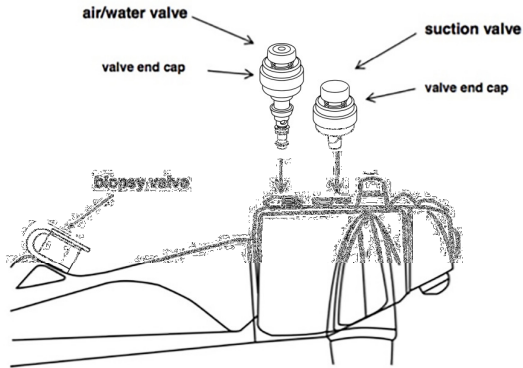

Figure 1
4. Insert the suction valve into suction cylinder of an Olympus® endoscope (see Figure 1 below).
9. Insert the air/water valve into the air/water cylinder of an Olympus® endoscope (see Figure 1 below).
13. Securely place the biopsy valve onto the biopsy/suction channel opening of an Olympus® endoscope (See Figure 1).